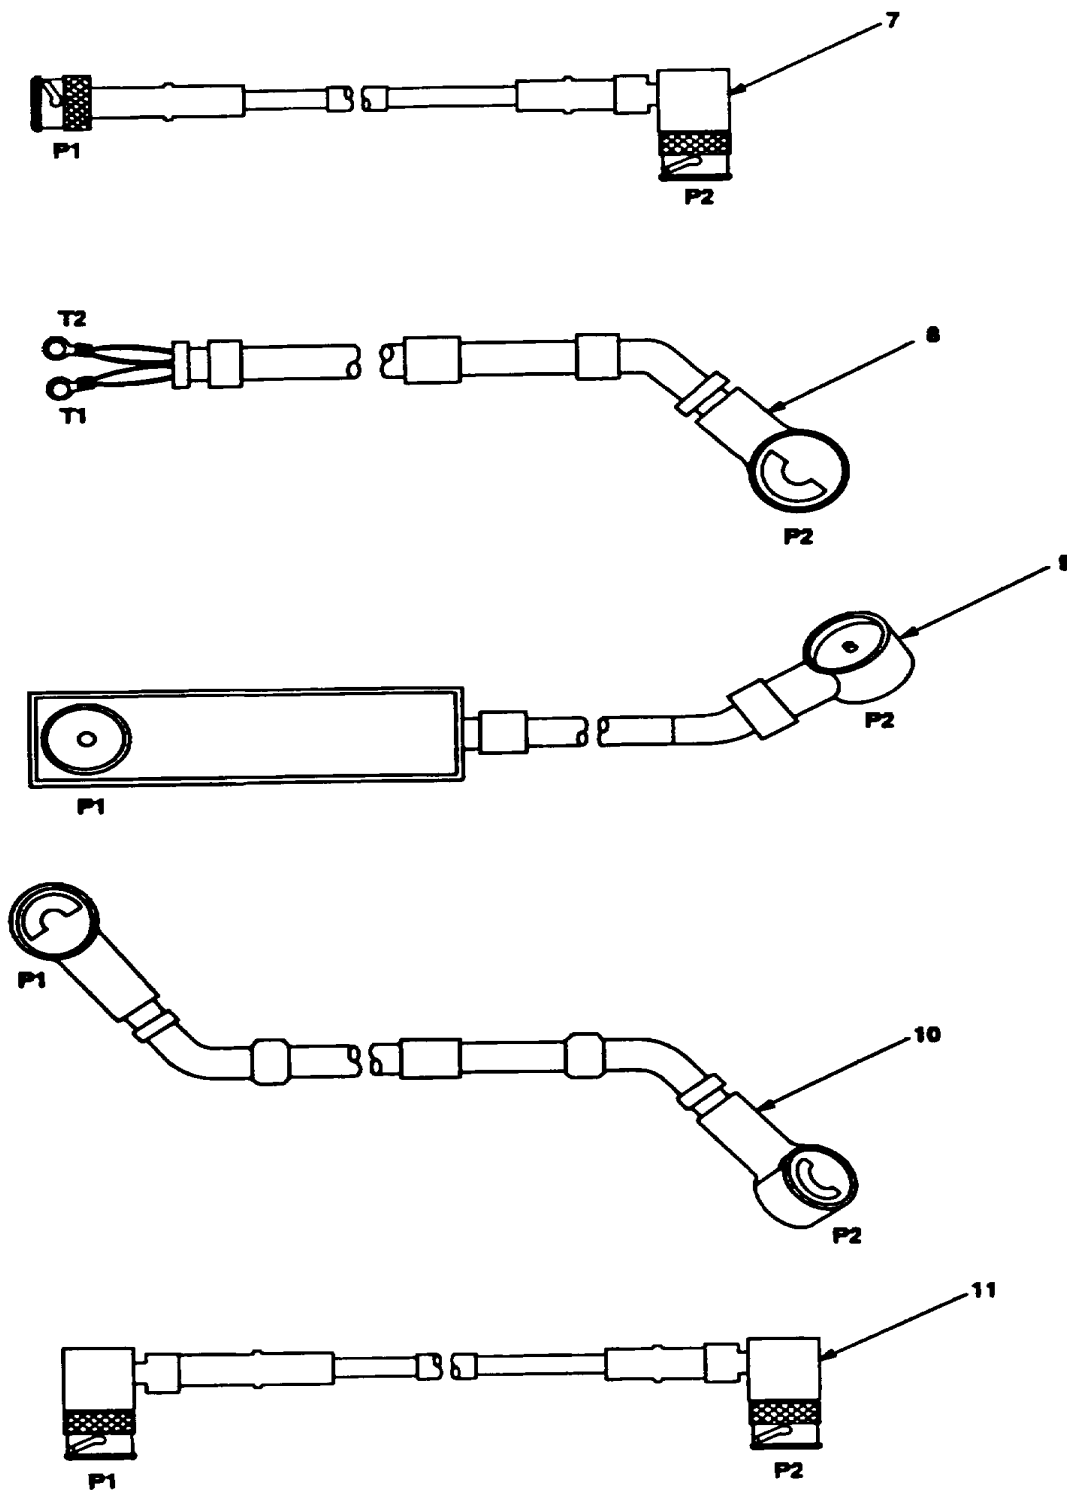

Figure 5-1 (2). MK and Radio Installation: Radio Equipment Locations
**5.1 Installation of Antenna AS-3900/VRC (antenna).** Use the following procedure to install both antennas. See figures 5-1 (1) for locations.